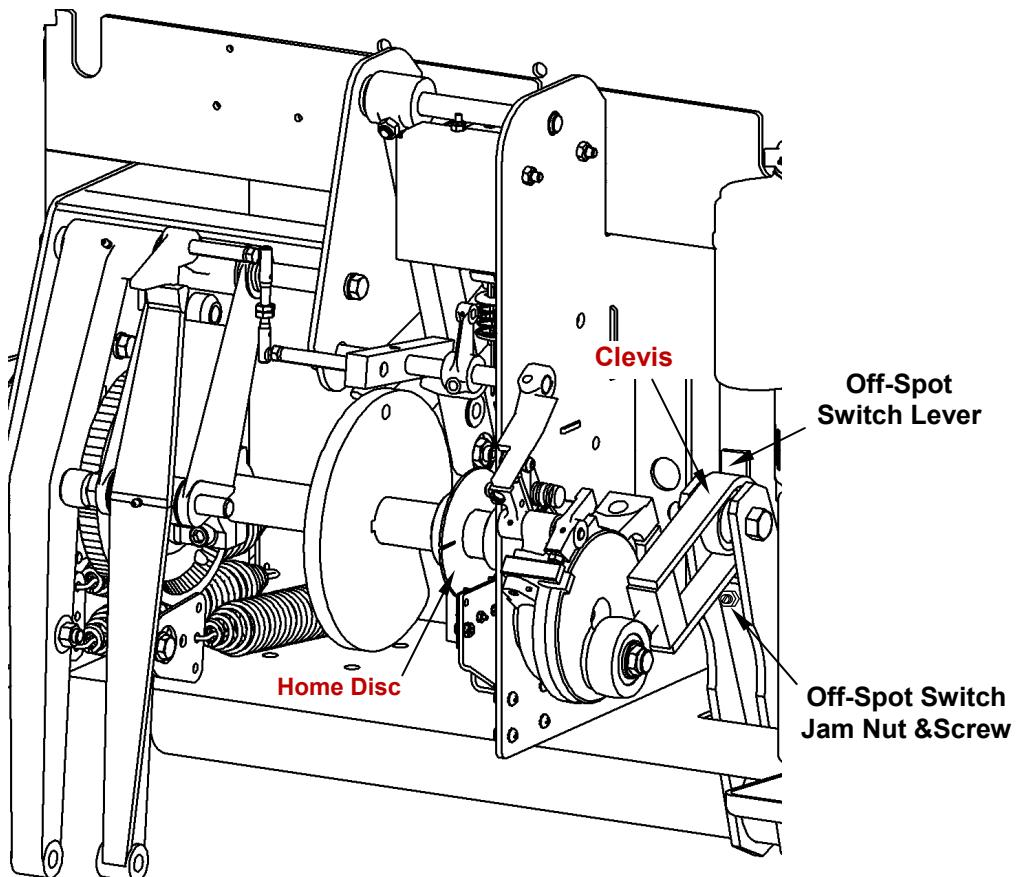

Figure 4.2-12
1. With the table at the home position, loosen the off-spot adjusting screw jam nut located on the table arm just below the clevis (see Figure 4.2-12).